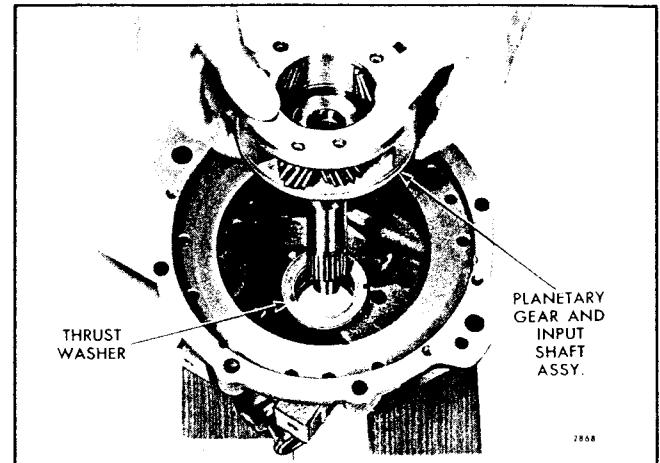

Fig. 51 - Installing Planetary Gear and Reduction Gear Input Shaft Assembly in Gear Housing (1.5:1 and 2.1:1 Ratios)
- c. Position the planetary gear and drive (output) shaft assembly over the top of the gear housing (Fig. 51), then insert the end of the drive (output) shaft straight down through the bushings or housing until the rear face of the planetary gear rests on the gear housing.
- d. Position the planetary gear and input shaft assembly over the top of the gear housing as shown in Fig. 51; then, insert the end of the input shaft straight down through the thrust washer and bushings or housing until the rear face of the planetary gear rests on the thrust washer.
- c. Position the planetary gear and input shaft assembly over the top of the gear housing (Fig. 51); then, insert the end of the input shaft straight down through the bushings or housing until the rear face of the planetary gear rests on the gear housing.